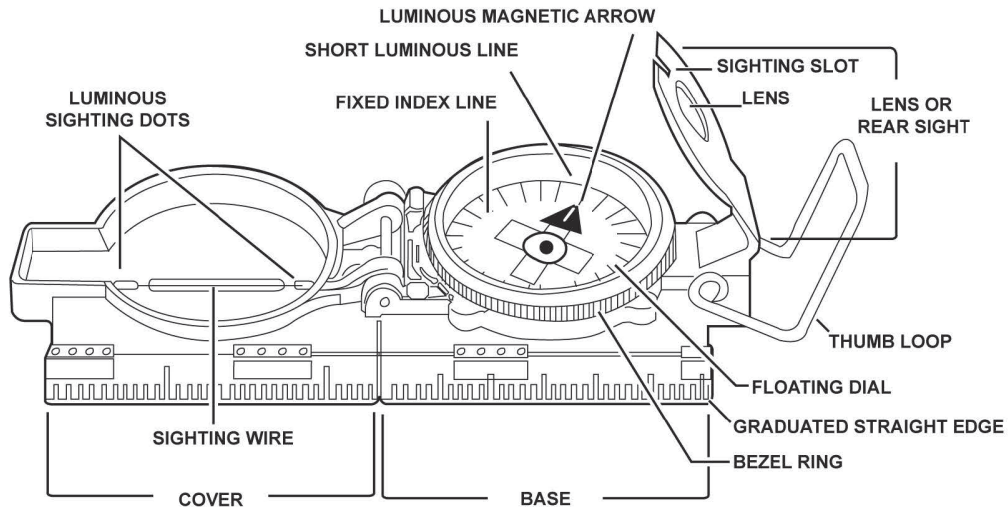

Figure 1. Lensatic compass.
1. Inspect the compass (Figure 1 and 2).